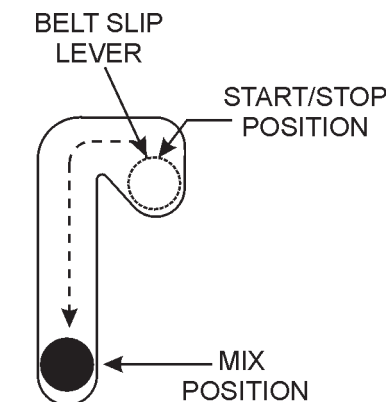

Figure 21. Belt Slip Lever (Mix Position)
- Place the belt slip lever (Figure 21) in the *mix* position. This will tilt the engine placing tension on the V-belts enabling the shaft to rotate.